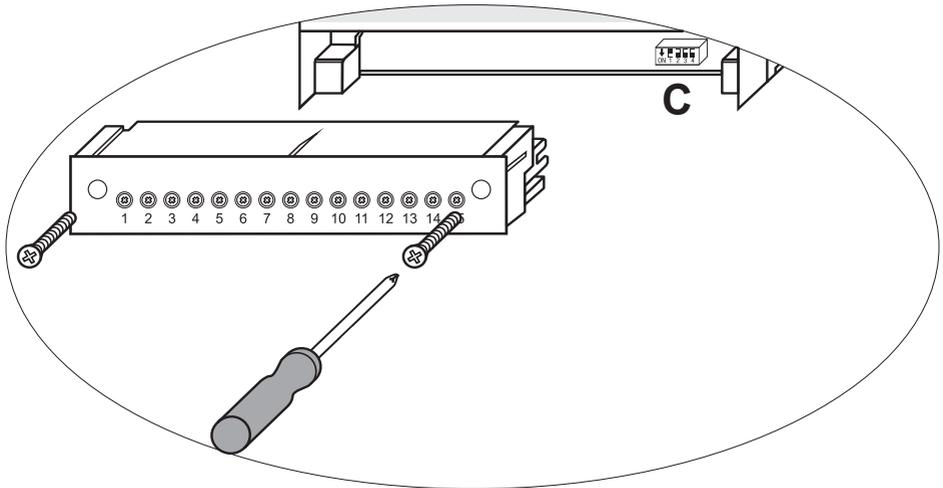

Fig. 14
See Figure 14
- Lower terminal strip: Unscrew the left and right fixing screws. See Figure 14